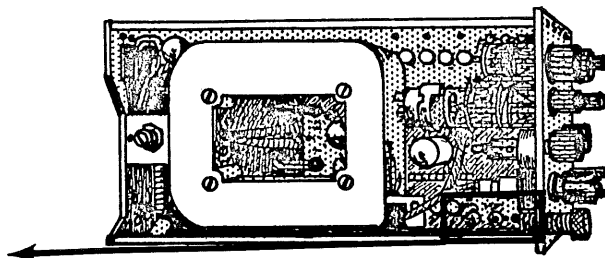

Figure 5-25
2. Adjust the B Preamp Sens, R2058 - See Figure 5-25, so the false baseline under the pulse is aligned with the true baseline which precedes and follows the pulse. See Figure 5-24.